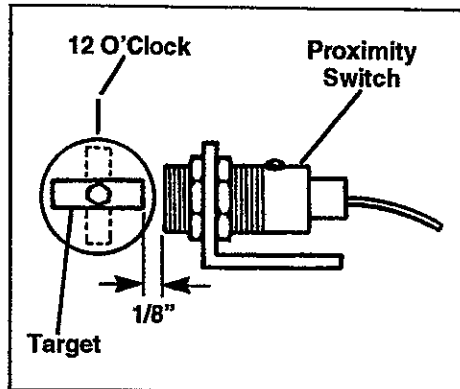

Fig. 12. Proximity Switch Target
- F. Position the proximity switch target in front of the proximity switch. See Figure 12. Tighten the proximity switch into the bracket so that the switch is 1/8" away from the target.
Rotate the switch target in front of the proximity switch to ensure that the target does not come into direct contact with the switch. Finger tighten the target at the 12 o'clock position. See Figure 12.